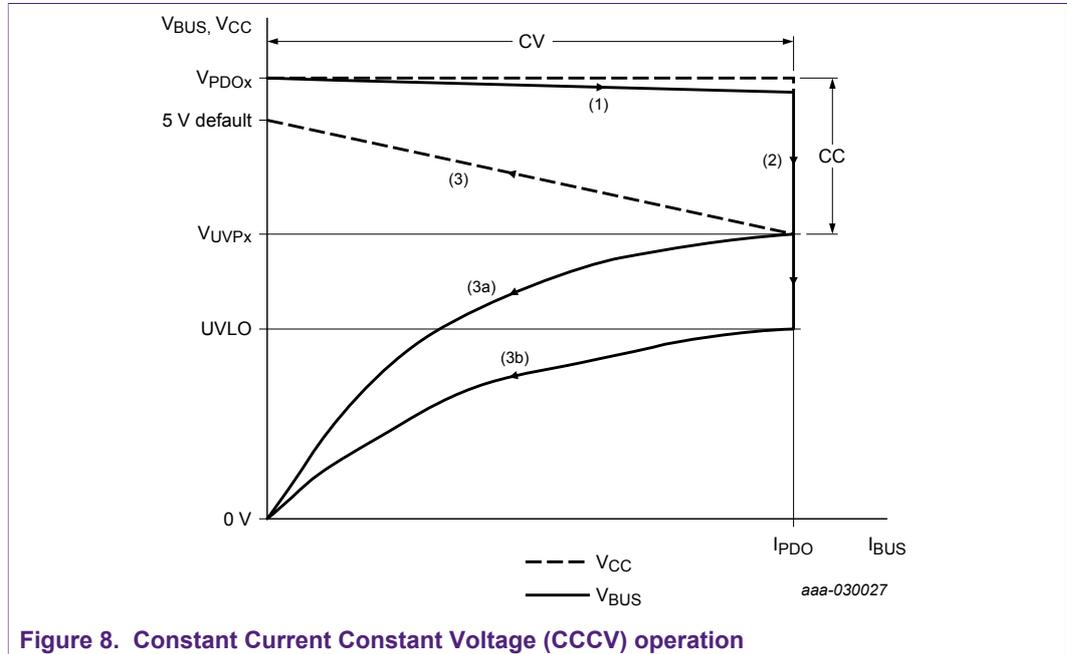

Figure 8. Constant Current Constant Voltage (CCCV) operation
Constant Current Constant Voltage (CCCV) operation refers to a control methodology with a behavior shown in Figure 8. In region (1), the output voltage (VCC) is regulated to the selected PDO constant voltage level as long as current I_{bus} drawn by the consumer remains below the selected maximum PDO current (IPDO).